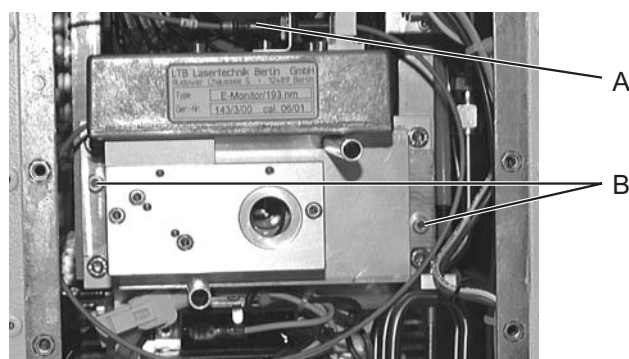

Figure 44: Removing the energy monitor
16. Disconnect the FOL from the connection on the top of the energy monitor (see Figure 44, A).
17. Loosen and remove the screws attaching the energy monitor (see Figure 44, B).